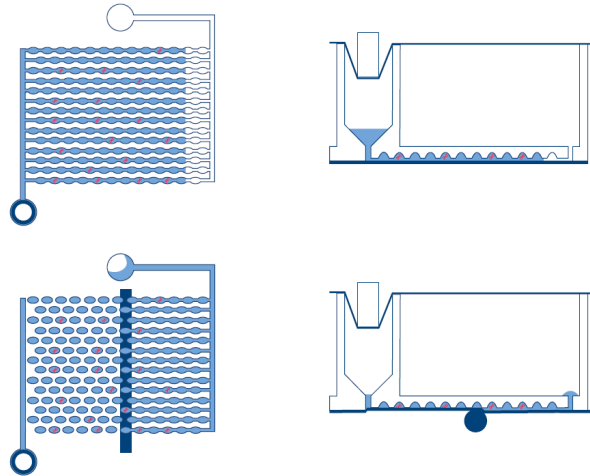

Figure 1. Scheme of filling and partitioning of a well.
- **Partitioning:** In the first instrument module, the microchannels and partitions of the plate are filled with the sample material and dPCR reaction mix. This is accomplished by plunger pins compressing the elastic Top seal of the nanoplate over each well. This creates a positive pressure that pumps the input well liquid into the microchannels and partitions. Subsequently, the connecting channels between the partitions are sealed by activation of a pressure sensitive adhesive through a pressure-controlled rolling process (see Figure 1).
- **Imaging:** The final process step is the image acquisition, which captures the signal from each partition of the nanoplate wells. Within Utility mode, the user can configure the detection channels and imaging settings using the experiment setup functionality within the Software Suite. Within the IVD mode, the imaging settings are preset to optimized conditions, requiring no configuration by the user. The partitions which contain a target molecule will emit fluorescence with higher intensity than partitions without target (see Figure 1). For more details and specifications on the imaging system, see Section 8 Technical Specifications.